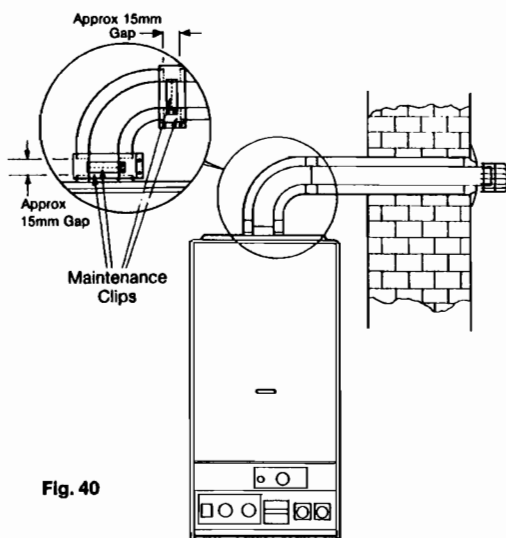

Fig. 40
- 8.19.5** Remove screws on large maintenance clips (fig 40) and remove clips, loosen screws on the small clips and remove flue elbow.